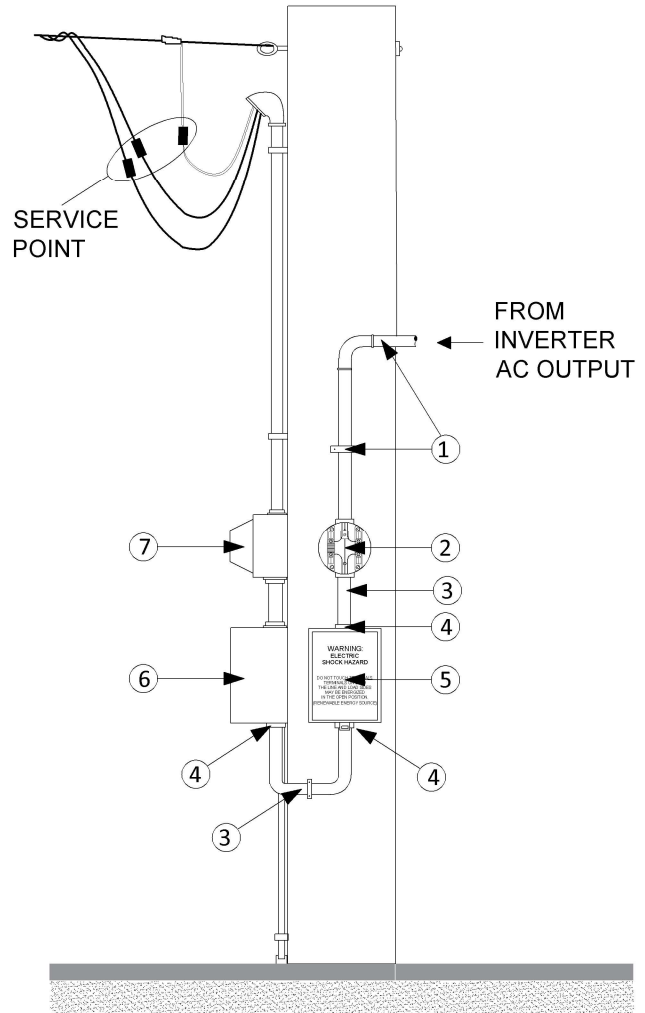

Figure 2. RE SYSTEM VISIBLE DISCONNECT DEVICE
- ☐ 5. RENEWABLE ENERGY (RE) SYSTEM VISIBLE DISCONNECT DEVICE (See Figure 2)